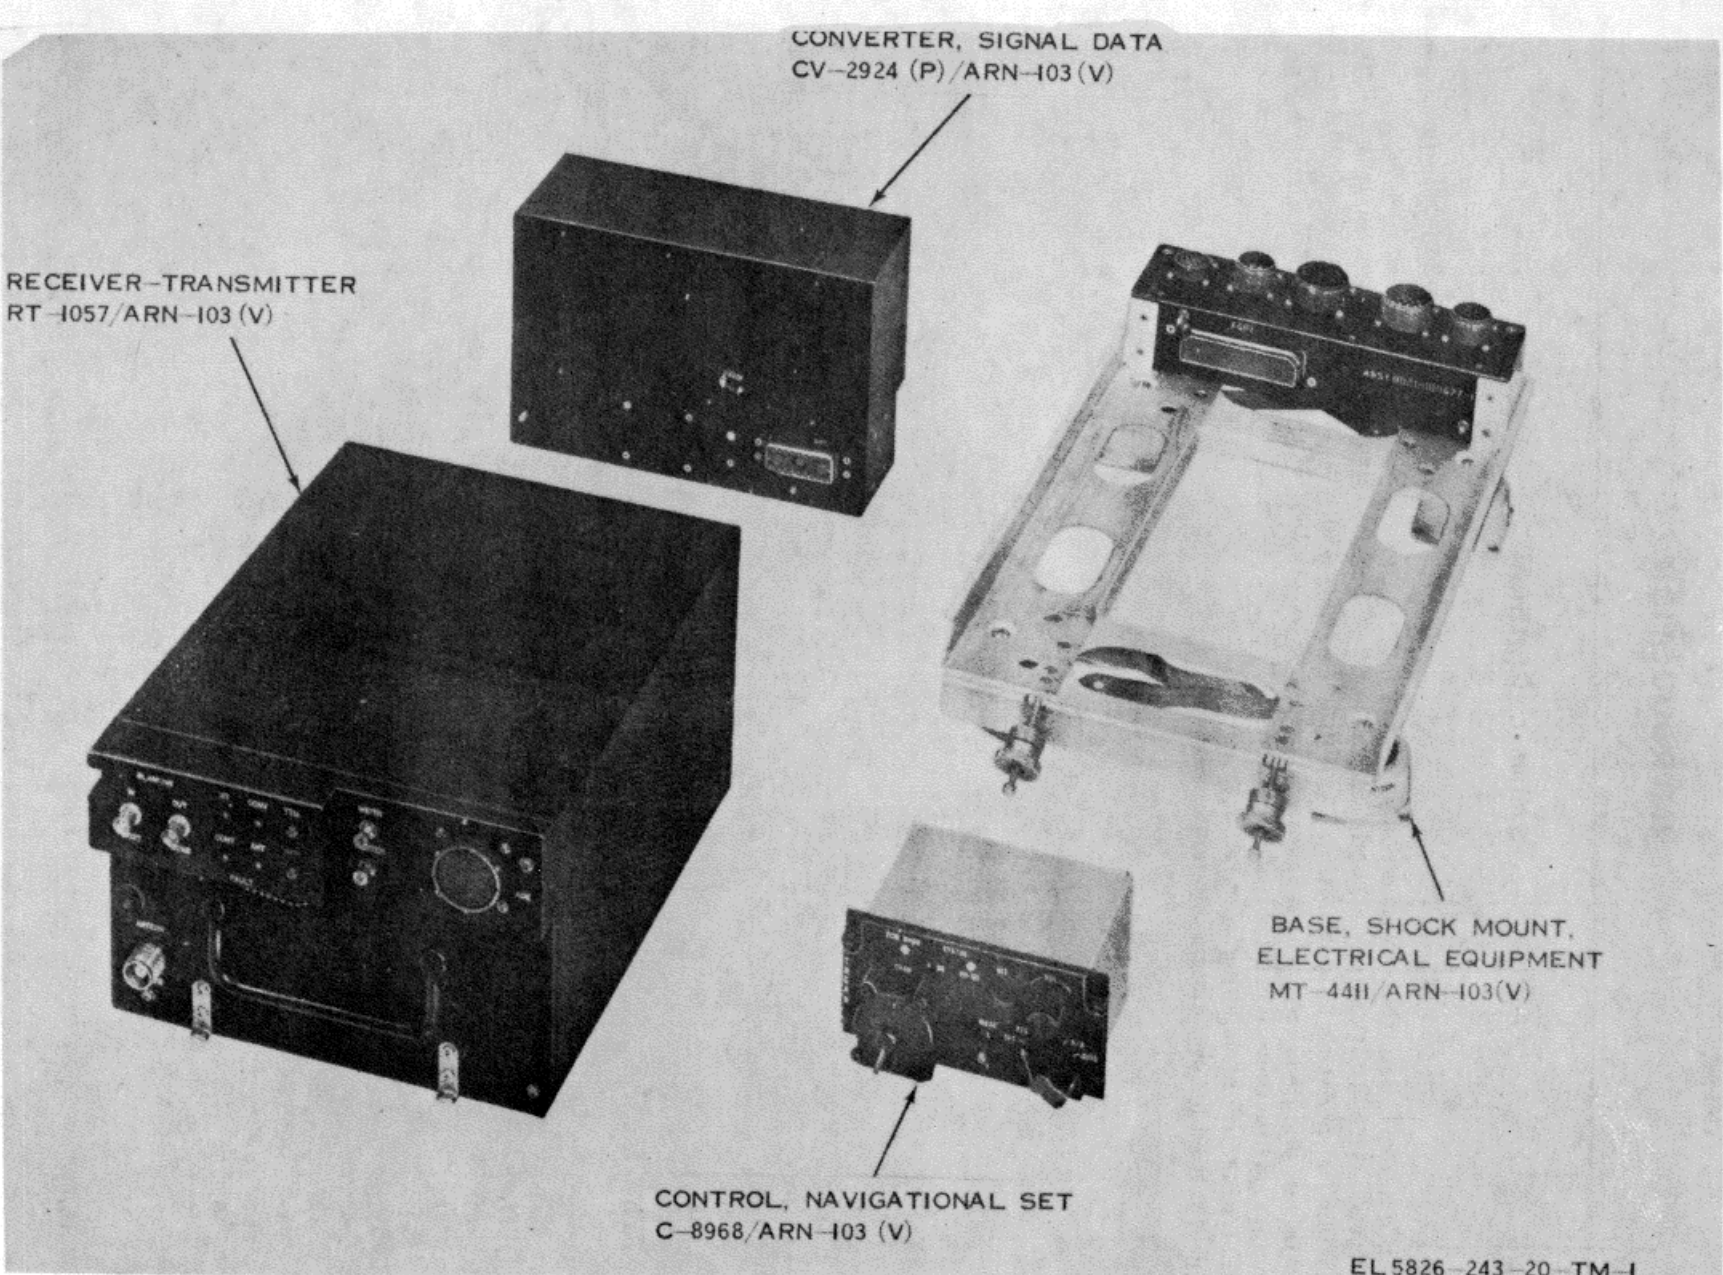

Figure 1-1. Navigational Set. TACAN AN/ARN-103(V).
a. This manual describes Navigational Set, TACAN AN / ARN-103(V) (fig. 1-1) and includes installation, operating instructions, and organizational maintenance. The organizational maintenance instructions consist of cleaning, inspecting, testing, troubleshooting, and replacement of parts authorized for organizational maintenance.
c. The (V) denotes that the equipment is used in various configurations. Refer to paragraph 1-12 for a description of the configuration differences.